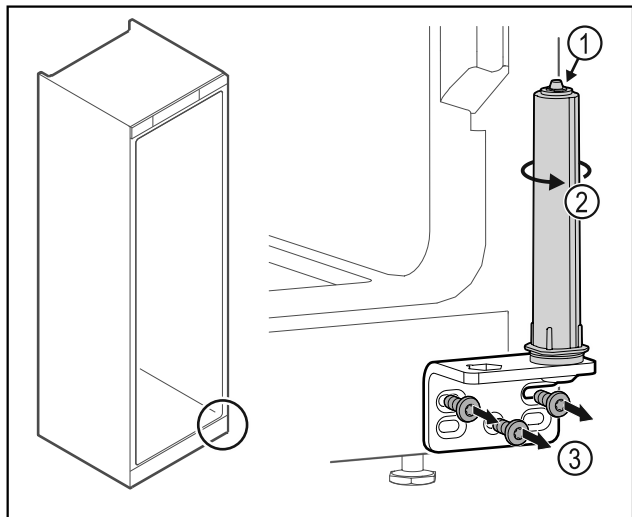

Fig. 37
- Do not disassemble the door closing system Fig. 37 (1).
- ▶ Turn the closing system Fig. 37 (2) until it clicks.
- ▶ Unscrew the hinge Fig. 37 (3).